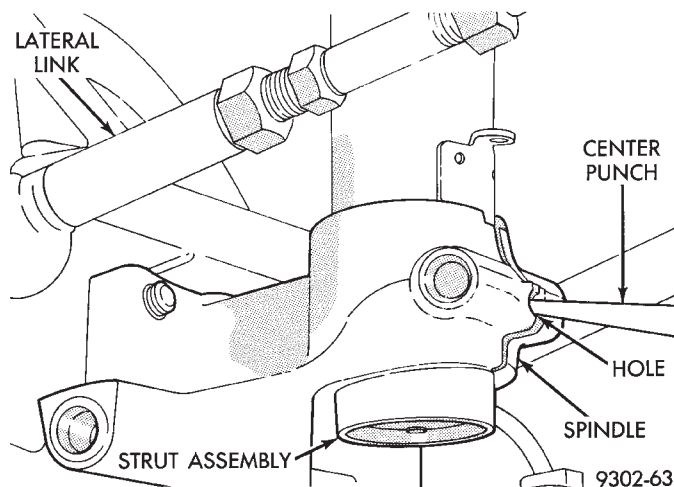

Fig. 11 Center Punch Installed In Spindle
(13) Insert a center punch into the hole on the spindle (Fig. 11). Center punch must be tapped into spindle until jammed into hole. This will spread spindle casting allowing it to be removed from strut assembly. Do not punch a in strut assembly with center punch.